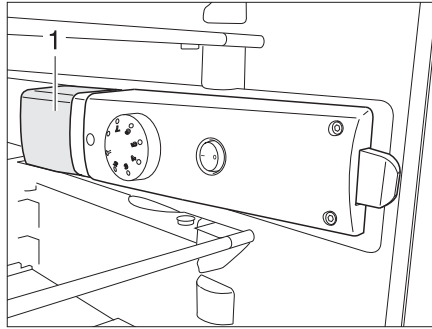

Fig. 400 Refrigerator light
- Grip under the light covering (Fig. 400,1) from behind and raise the light covering approximately 3 mm.